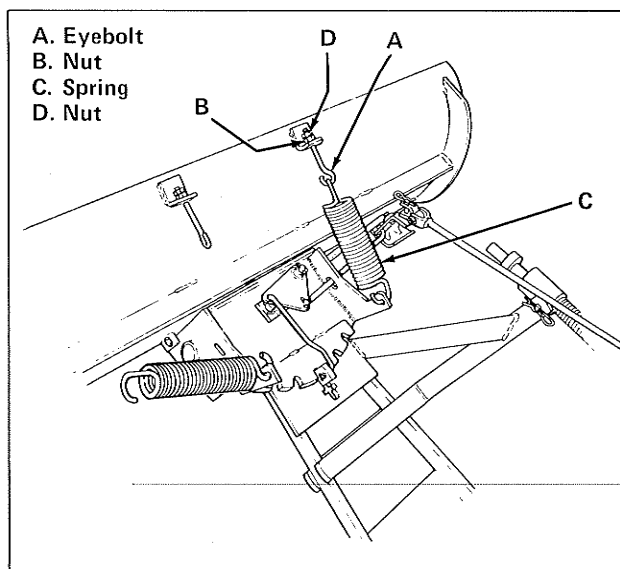

Figure 2. Attaching Springs
3. Insert eyebolt (item A, figure 2) through lug on blade and screw on nut (item B). Screw on nut so it is flush with the threads on edge of the eyebolt.